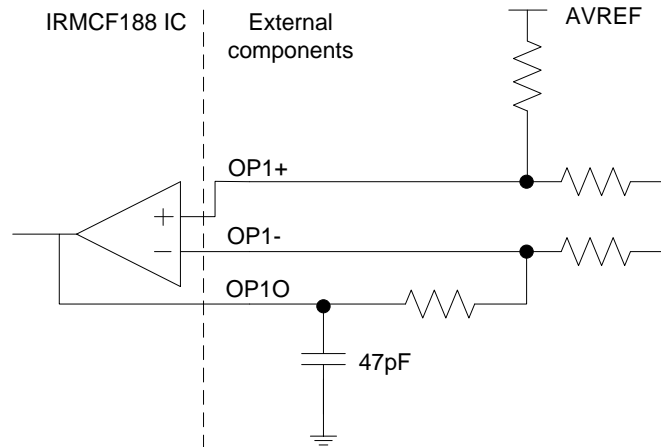

Figure 8 Op amp output capacitor
(1) Data guaranteed by design.
(2) To guarantee stability of the operational amplifier, it is recommended to load the output pin by a capacitor of 47pF, see Figure 8. Here only Op-amp 1 is shown but all op amp outputs should be loaded with this capacitor value.